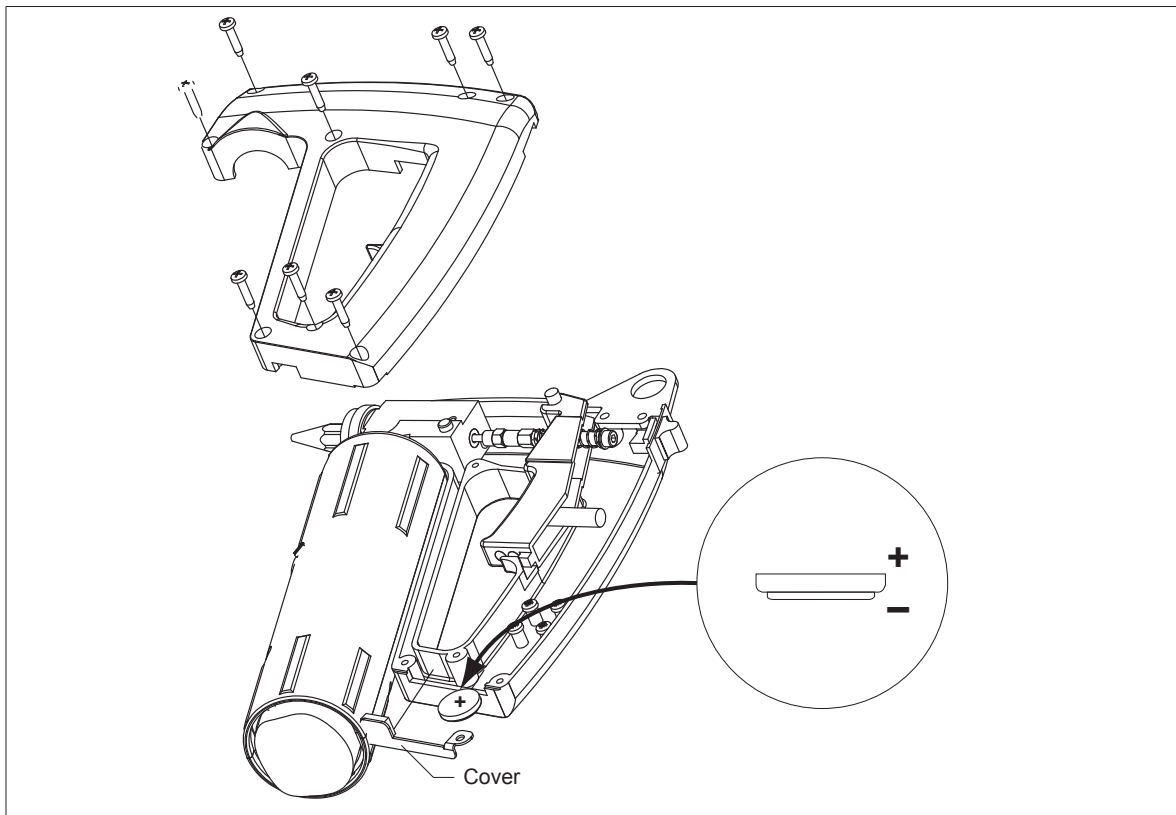

Figure 7.3/1: Replacing the transmitter battery
1. Release and remove the Phillips head screws as illustrated in Figure 7.3/1.
Please observe correct polarity of the battery (see Figure 7.3/1)!